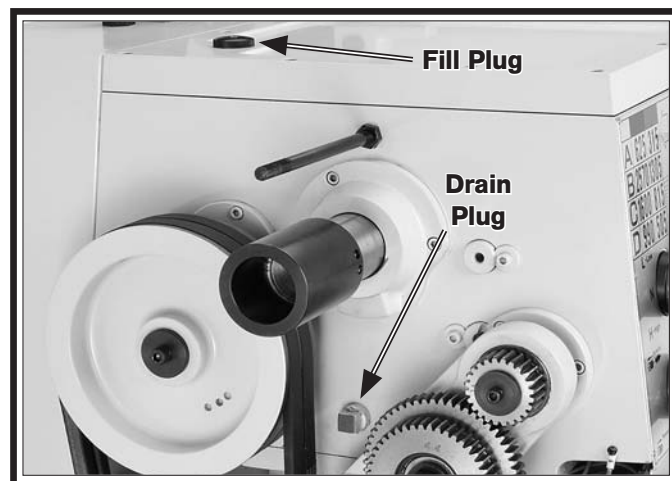

Figure 101. Headstock fill and drain plugs.
The oil fill plug is located on top of the headstock, as shown in **Figure 101**.
5. Place the catch pan under the headstock drain plug (see **Figure 101**), then remove the plug.